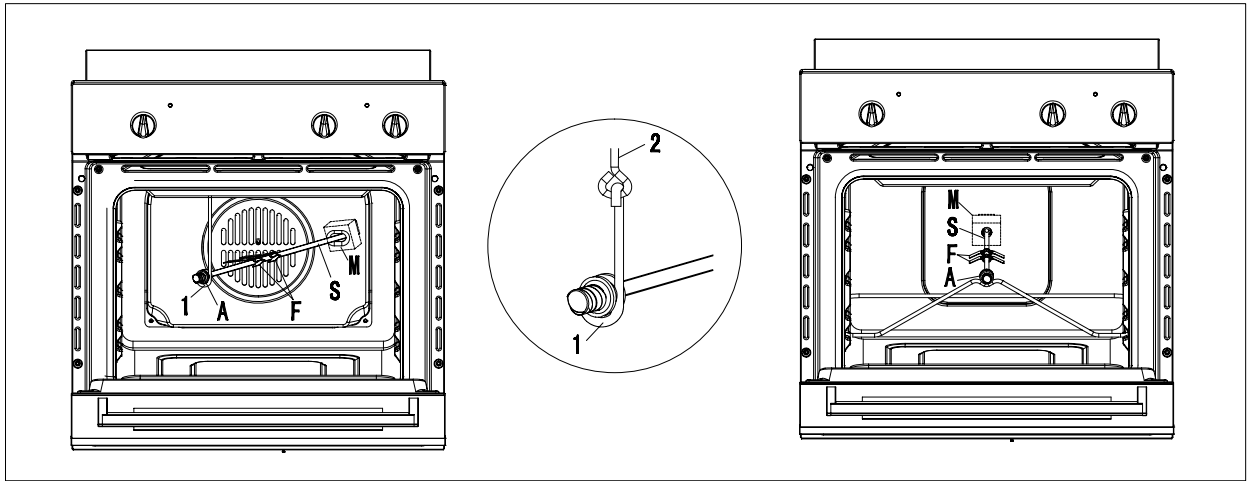

Fig.6
- Fit the knobs protection as shown in (fig. 6)